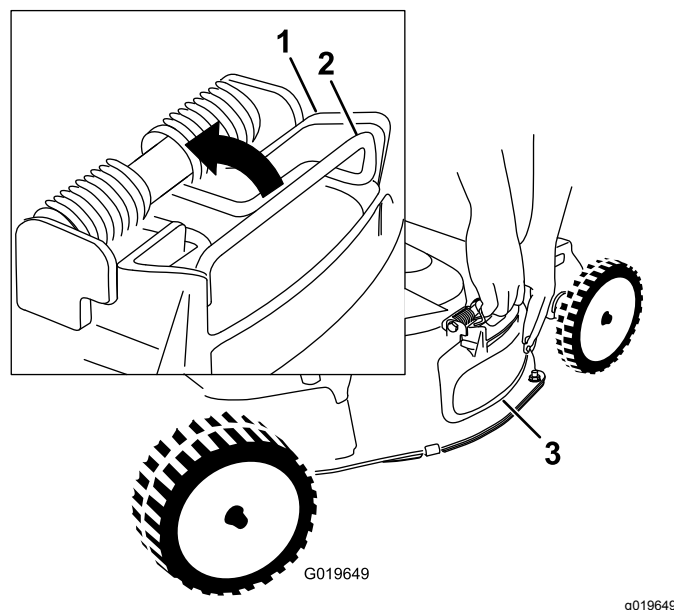

Figure 24
4. Remove the side-discharge deflector by pulling up on the spring that holds the door in place and removing the deflector (Figure 24).